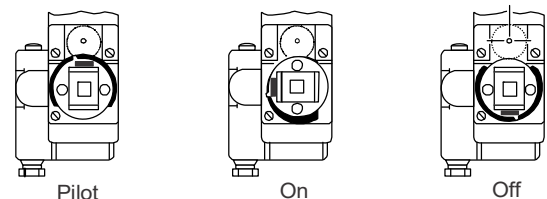

Figure 2: Model H43G Handle Positions
2. For Model H43G_, pilot and the main burner gas are shut off when the valve is in the "OFF" position. To turn the valve off from the pilot position, turn the valve counter clockwise to the "ON" position, push in the handle compressing the spring completely, and continue turning counter clockwise until the valve reaches the "OFF" position. (see Figure 2 for handle positions). The H43G model does not have a lock button. Wait at least 5 minutes for unburned gas to escape from the appliance. To go to the "PILOT" position from the "OFF" position, rotate the handle clockwise 180°. Do not push down while doing so. To reset the power unit, push down on the reset button for 30 to 45 seconds until the pilot remains burning. Rotate the handle counter clockwise 90° to open gas to the main burner.